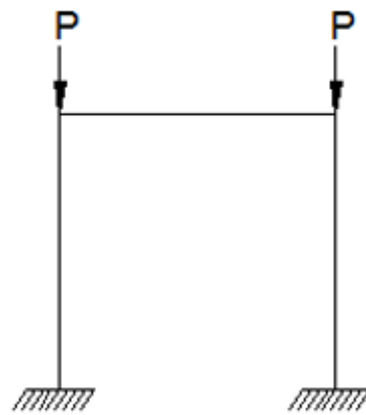

Fig. 2
10. Determine the critical load of the portal frame with sway shown in Fig. 2 using equilibrium approach. All members have the same ' EI ' and ' I '.